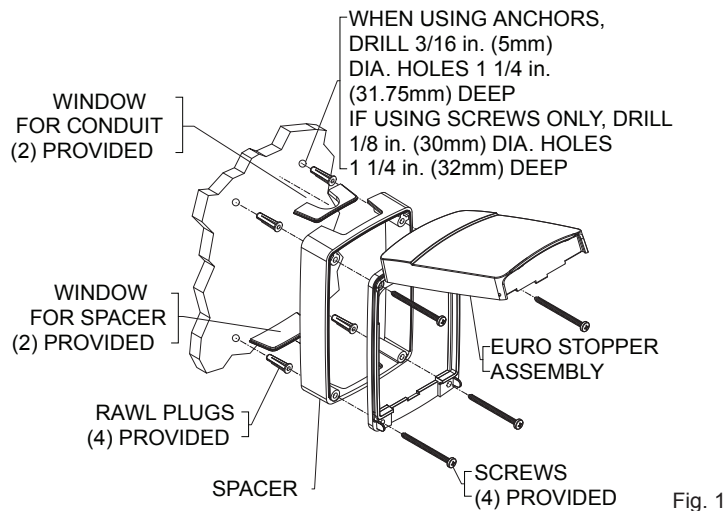

Fig. 1
1. Position the Euro Stopper over the device to be protected, open the front cover of the Euro Stopper and mark the position for the four (4) mounting screws
2. Drill holes and attach the Euro Stopper to the wall using the screws provided. See Fig. 1 for drill sizes.